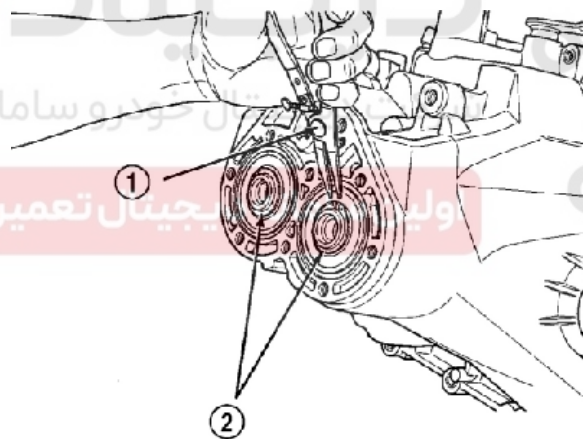

Figure 3-68 Bearing snap ring
(9) Assemble the snap ring on Input and output bearing (Figure 3-68).